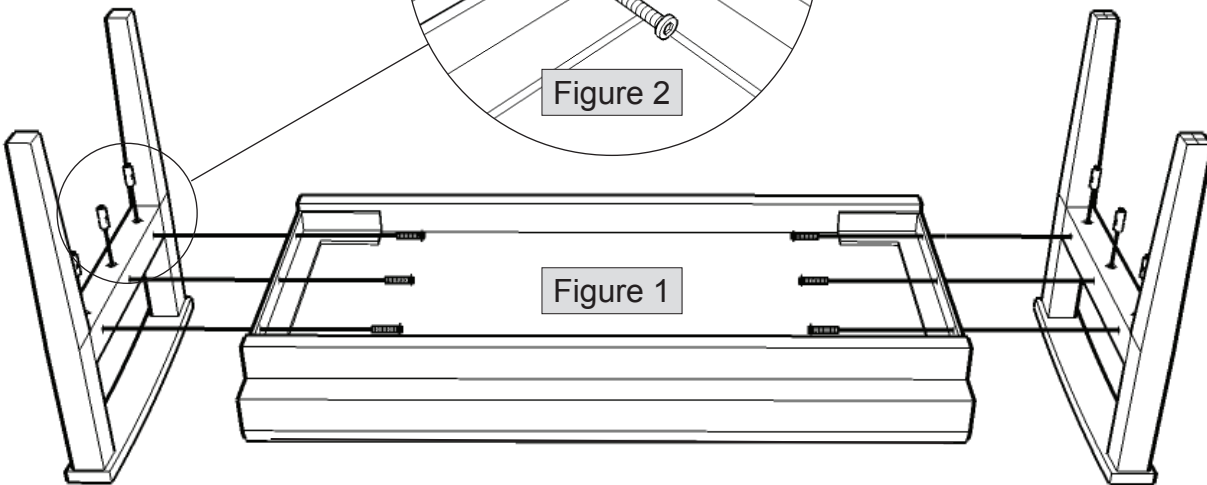

Figure 1
3. Insert barrel nuts in leg frames, as shown in figures 1 and 2. Push to bottom of holes